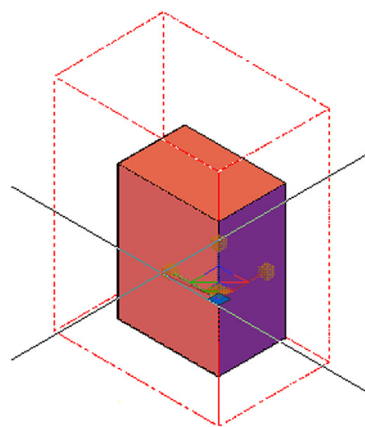

FIGURE 22.19
Step 4. Pick the XY plane. You can then move the mouse to scale the object or type in a value, as seen in Figure 22.19.